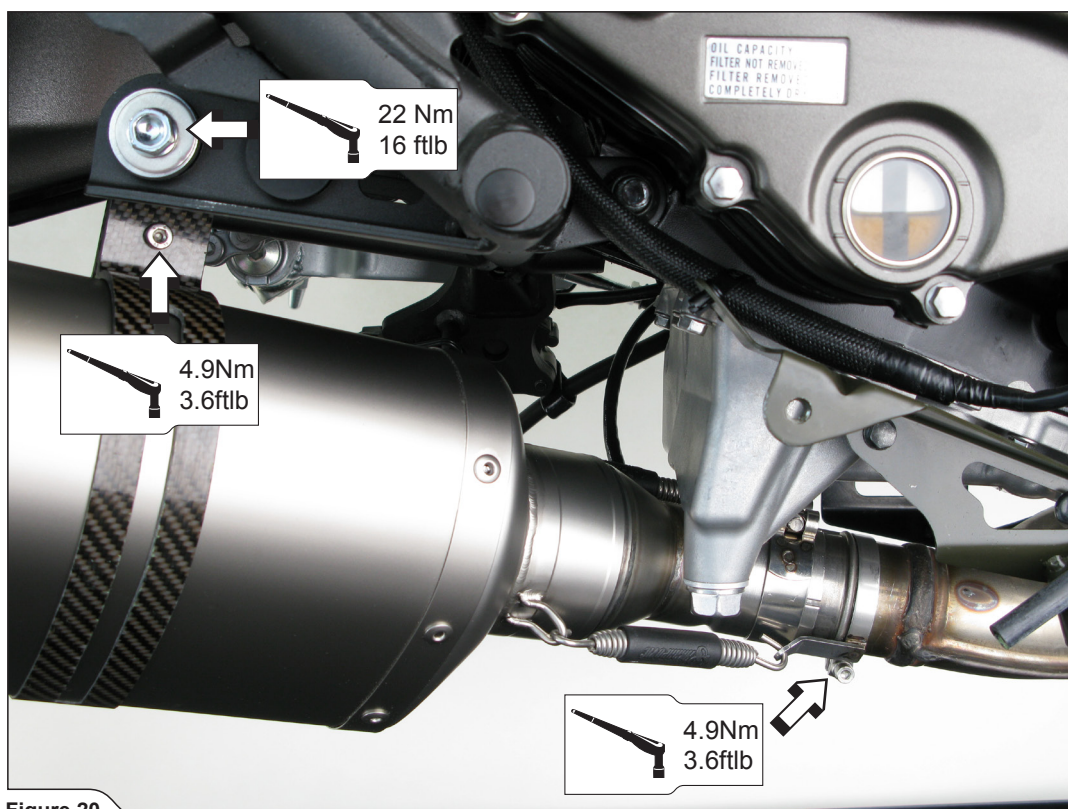

Figure 20
7. Align the muffler in respect to the motorcycle, tighten the bolt on the carbon-fiber clamp and tighten the carbon-fiber clamp to the stock muffler bracket joint using Akrapovic bolt, washer and nut. Tighten the metal clamp with spring hook (Figure 20).